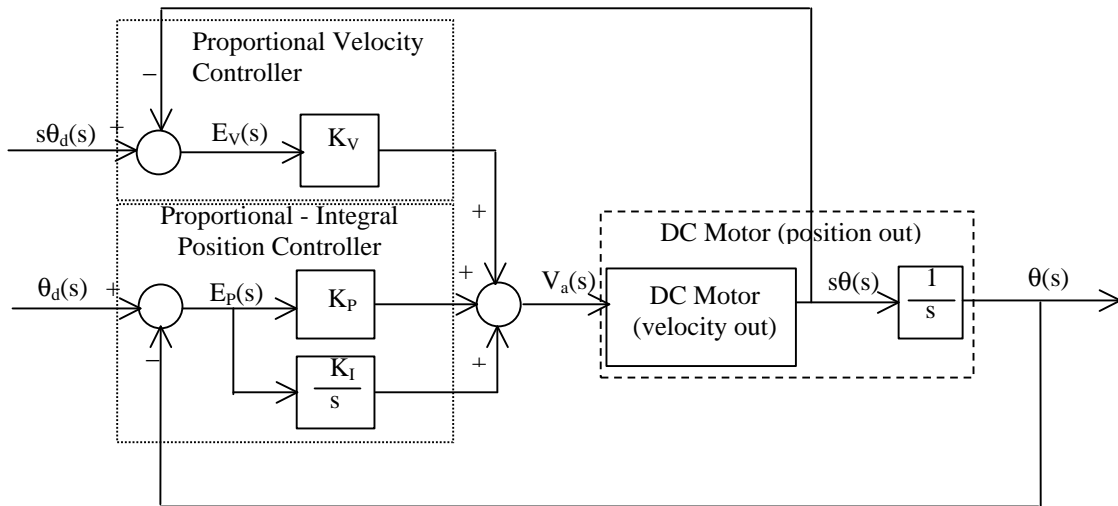
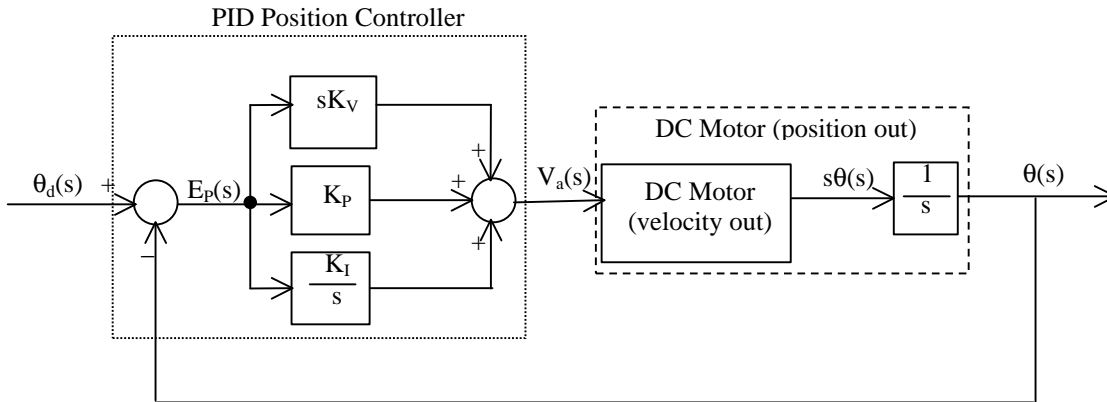

Figure 1: Proportional-Integral Position plus Proportional Velocity Control of a DC Motor
Figure 2: Proportional-Integral-Derivative (PID) Position Control of a DC Motor
Many applications require a motor to accurately track a position profile that varies smoothly over time rather than a sharp transition from one fixed value to another. This type of control objective is referred to as trajectory tracking and can serve two purposes. The first application of trajectory tracking is for tasks such as robotic welding, robotic spray painting, or radar target tracking where a motor driven system needs to be precisely positioned for each instant of time. The second usage is for transitioning a motor driven system such as a large antenna from one fixed position to another without the sudden motions and excessive control action often required for following a step transition. This lab investigates the use of proportional and integral (PI) position control along with proportional (P) velocity control for DC motor trajectory tracking as shown in figure 1. Making use of both position and velocity information in the control system gives the controller more information about the task and should improve tracking accuracy.
2. The control system depicted in figure 1 has two inputs and one output making system analysis difficult; therefore, for ease of investigation, the control system can be redrawn in true PID form as shown in figure 2. Explain what was done in this reduction.
3. For the PID control system of figure 2, find the forward path transfer function $q(s)/E_p(s)$ in general.
4. For the PID control system of figure 2, find the closed-loop transfer function $q(s)/q_d(s)$ both in general and with motor parameters substituted.
2. Simulate your motor tracking system in Simulink as shown in figure 1 using the trajectory generator created in the prelab, motor model developed in previous labs, and gains determined above and in the prelab. The simulation serves to confirm that the chosen gains will achieve reasonable performance.
6. Add the PI position and P velocity control algorithms shown in figure 1 to implement the control approach on the DC motor. Implement the integral as simple Euler integration shown in equation 2 noting that *shift registers* will need to be used to initialize and compute the sum. See the online help for more information on *shift registers* and use gains K_v , K_p , and K_I determined above. After running your VI and successfully controlling the motor, make any necessary adjustments to the gains to further enhance performance and print the final VI and motor position and velocity responses. Comment on any differences between simulated and actual responses, problems, or unforeseen difficulties.
- b) Why was the controller utilized in this lab (see figure 1) described as PI position with P velocity rather than PID (see figure 2)? Is there a difference?